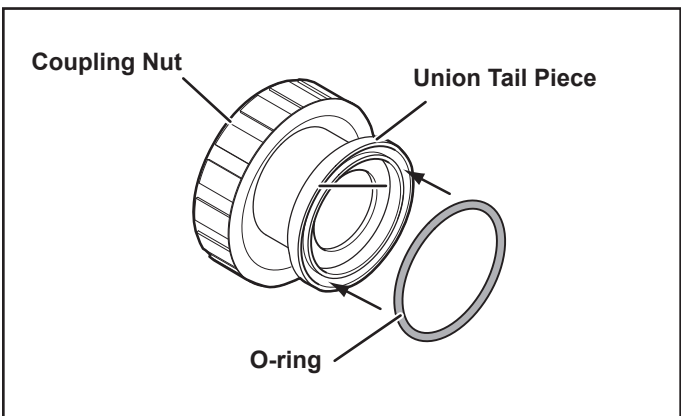

Figure 2. O-ring Placement
5. Place O-rings on the face of the union tailpieces, where the face of the tailpiece will connect to the filter ports. Make sure each O-ring is properly seated into the groove of each union tail piece. See Figure 2.